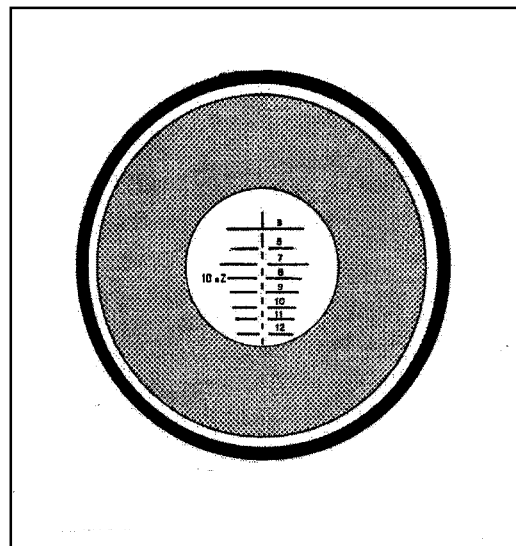

Figure G-41. Incorrect eye relief.
(2) If the target scene does not fill the sight's field of view, the optical sight must be repositioned on the rail either forwards or backwards (Figure G-41).
c. Repeat a until the correct sight picture is obtained as shown in Figure G-41.